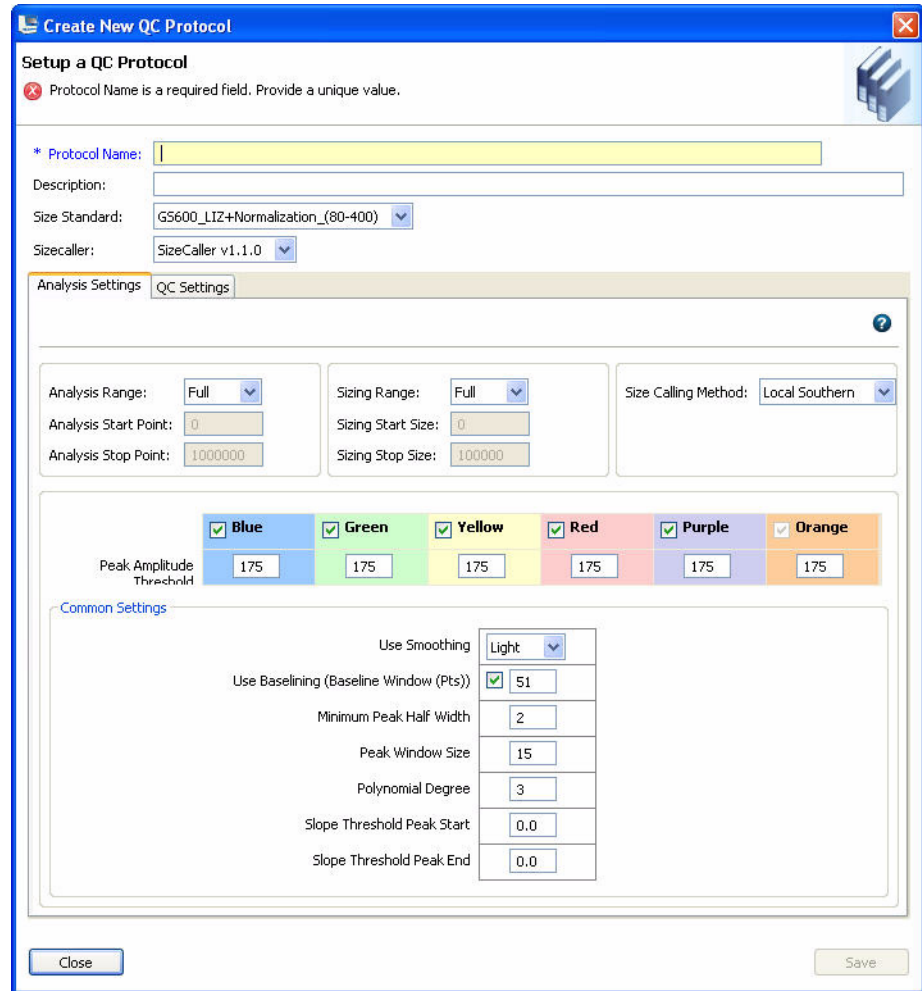

Figure 28 Create New QC Protocol – Analysis Settings
3. In the Analysis Settings tab of the Create New QC Protocol dialog box (Figure 28 on page 185), specify settings (see Table 16 on page 185).